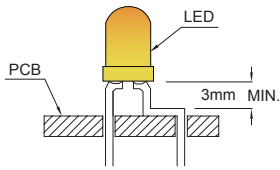

Fig. 5
- Maintain a minimum of 3mm clearance between the base of the LED lens and the first lead bend. (Fig.5 and 6)